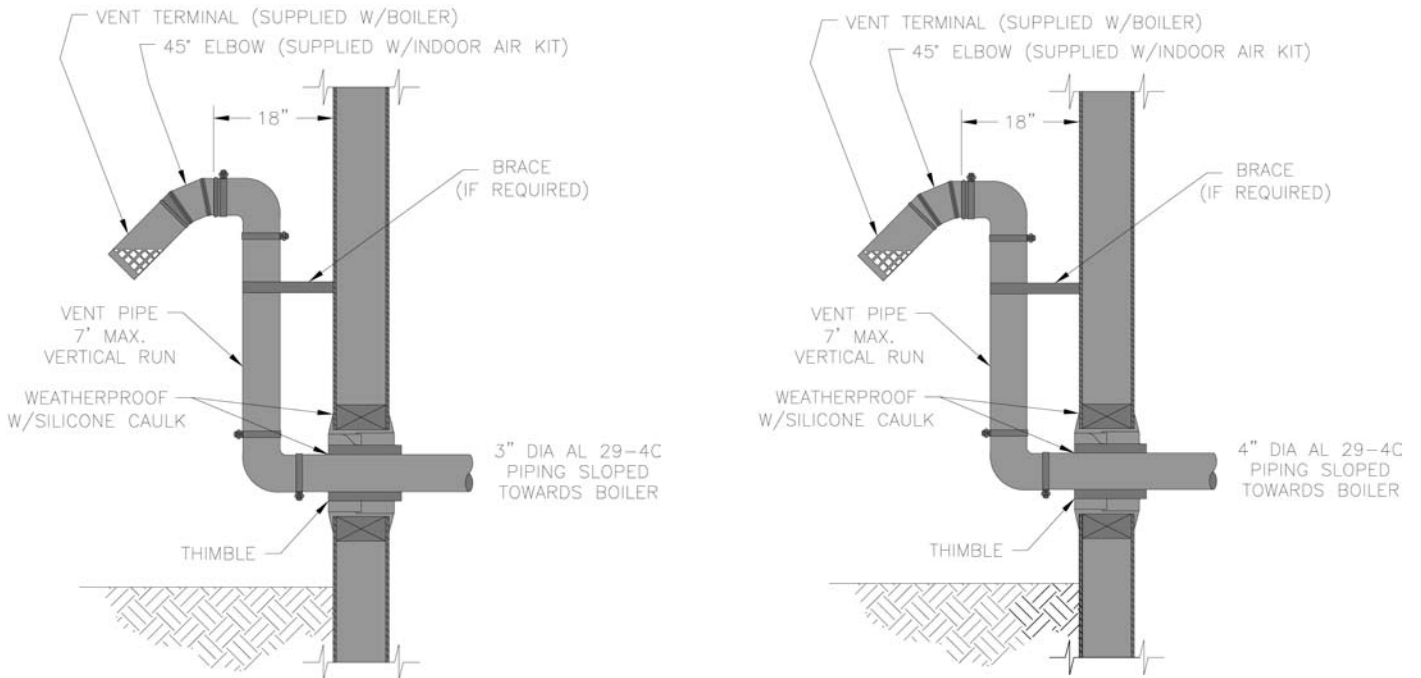

Figure 9: Horizontal Vent Terminal Installation (3" Vent [left view] or 4" Vent [right view])
F. Optional Exterior Separate Horizontal Vent Terminal Mounting – See Figure 9.
2. This installation will allow a maximum of seven (7) feet vertical exterior run of the vent piping to be installed.
- c. Install maximum of five (5) feet of AL 29-4C® vent pipe. Refer to Sections C through E for proper procedures for joining vent pipe and fittings.
- d. Install AL 29-4C® 45° elbow to upper AL 29-4C® 90° elbow so that leg of 45° is in down direction (see Figure 9).